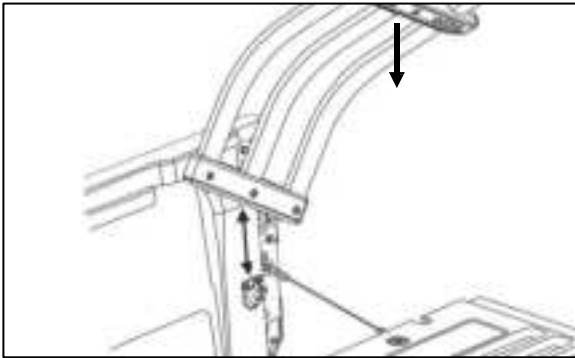

Fig. 2-1
(1) To install, rotate the Bed Extender 55° from the tailgate and slide the pivots into mounting brackets as shown in (Fig. 2-1).